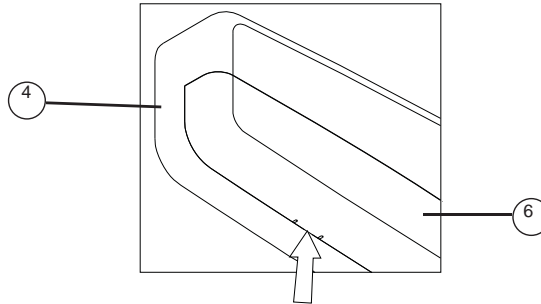
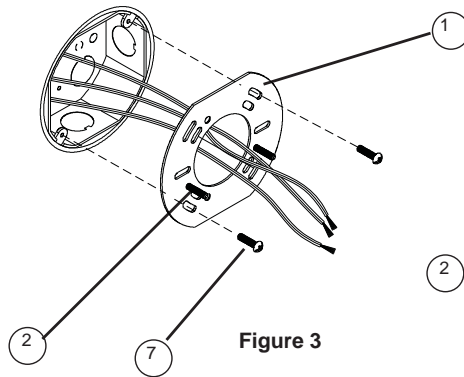
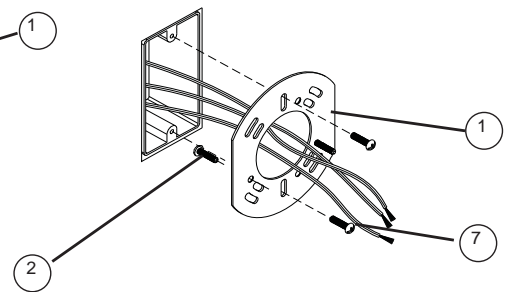

Figure 2
Figure 3
Figure 4
- 1. Remove fixture components and parts pack(s)** . Check that all parts are included. **See Page 2.** Remove diffuser (6) from housing assembly (4) by gently pressing tabs on bottom of diffuser and lift from housing. See Fig 2.
- 2. Remove Mounting Plate (1) from Housing (4)** by removing the two finials (5) with phillips screwdriver. Mounting Plate is installed from factory for installation to round or octagon or horizontal rectangle junction boxes- See Fig 2. For installation to vertical rectangle junction boxes- Mounting Plate (1) will need to be adjusted. Remove two 1/2" screws (2) from Mounting Plate (1). Rotate backplate (1) 90 degrees and reinstall (2) 1/2" screws (2)- See Fig. 3
- 3. With the power turned off at circuit breaker box,** position Mounting Plate (1) near the junction box and feed supply wires through center hole, position with installed Screws aligned horizontally (after mounting) and threads facing outward. Secure using 1" Screws (7) provided.
See Fig. 3 or Fig. 4